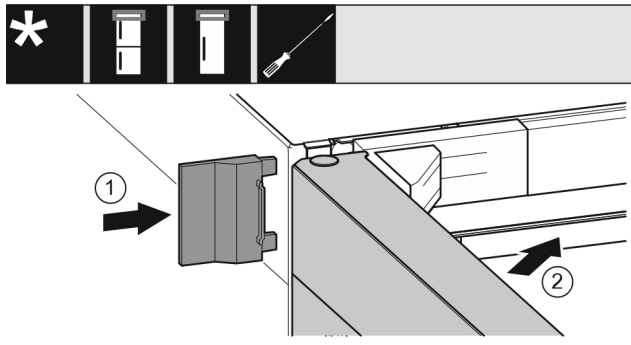

Fig. 25
- ▶ Slide on the outer cover Fig. 25 (1).
- ▶ Close the top door Fig. 25 (2).